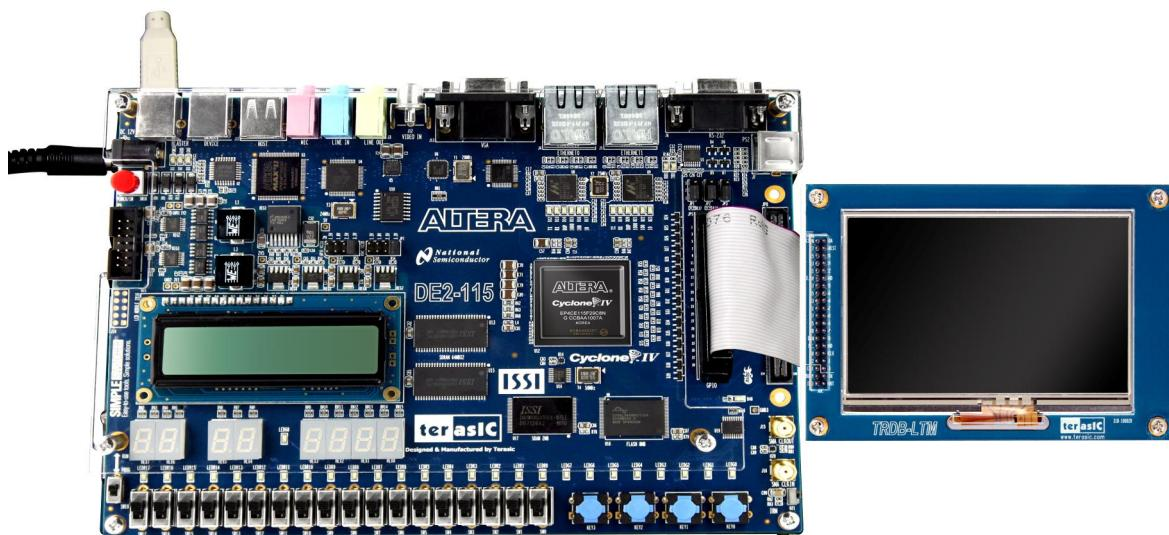

Figure 4.18 Picture viewer demonstration setup
- Connect the LTM to the DE2-115 board, insert the SD Card to the SD Card slot on the DE2-115, as shown in Figure 4.18